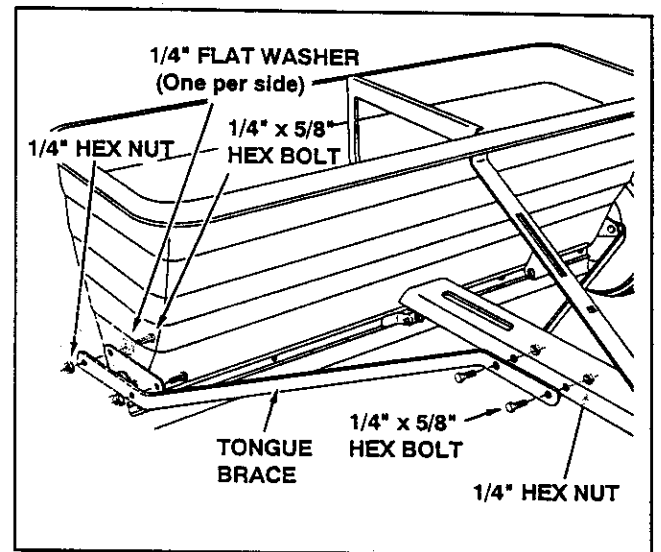

FIGURE 3
- Assemble one end of a tongue brace to the side of the tongue using two 1/4" x 5/8" hex bolts and 1/4" hex nuts. **Do not tighten yet.** See figure 3.
- Assemble the other end of the tongue brace to the triangular plate on the end of the spreader. Use a 1/4" hex bolt and 1/4" hex nut in the front hole of the plate. Use a 1/4" hex bolt, 1/4" flat washer and 1/4" hex nut in the rear hole, with the bolt and washer assembled on the inside of the hopper as shown in figure 3. **Do not tighten yet.**